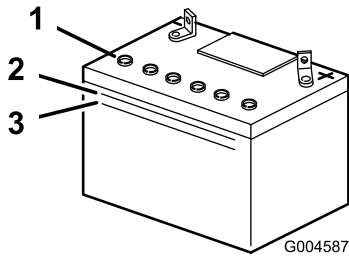

Figure 29
2. Look at the side of the battery. The electrolyte must be up to the upper line (Figure 29).
Note: Do not allow the electrolyte to fall below the lower line (Figure 29).
3. Remove the vent caps from the battery (Figure 29).
4. Slowly pour distilled water into each battery cell until the electrolyte level is up to the upper line (Figure 29) on the battery case.
5. Wait 5 to 10 minutes after filling the battery cells. Add distilled water, if necessary, until the electrolyte level is up to the upper line (Figure 29) on the battery case.